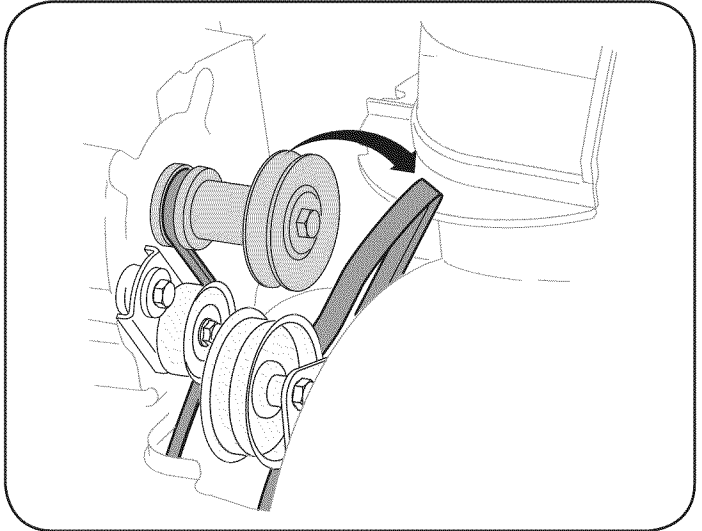

Figure 25
4. Roll the auger belt off the engine pulley. See Figure 25.